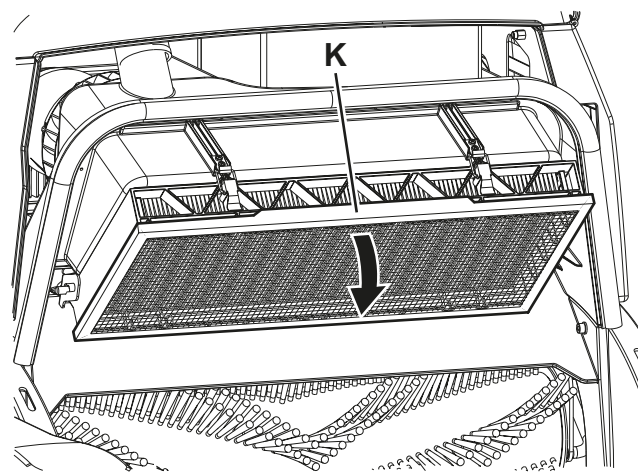

Figure 13
12. Remove the pre-filter (K, Fig. 13) and clean it with compressed air at maximum 87 psi (6 Bar).